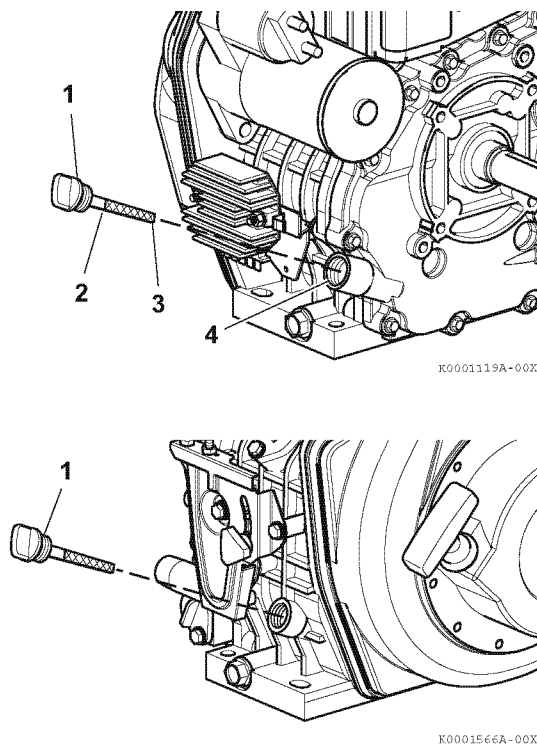

Figure 39
10. Add engine oil until the level is between the upper (2, **Figure 39**) and lower (3, **Figure 39**) lines on the oil cap/dipstick (1, **Figure 39**). See *Adding Engine Oil* on page 29.
13. Replace the oil cap/dipstick (1, **Figure 39**) and tighten by hand. Over-tightening may damage the cap. If any engine oil is spilled, wipe it away with a clean cloth.